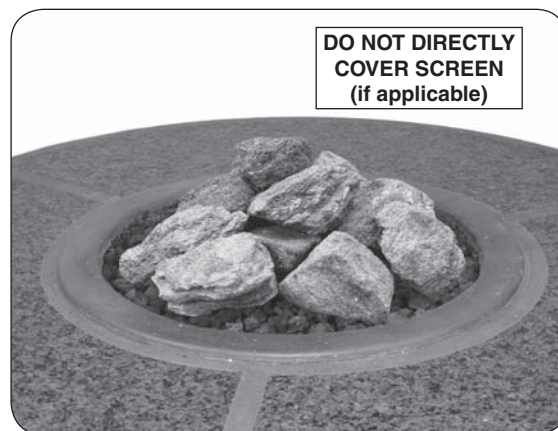

Fig. 31-3 Volcanic stones option
2. Pour the volcanic stones evenly into the burner area (see Fig. 31-3). The stones may form a mound. **Store any excess media in a safe location.**